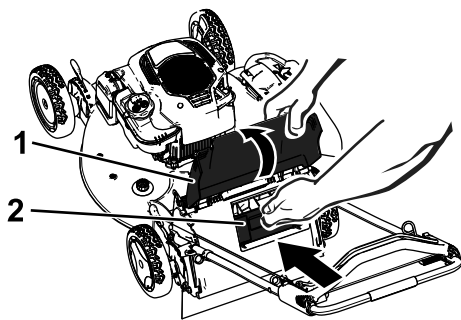

Figure 26
4. Install the rear plug (Figure 26).